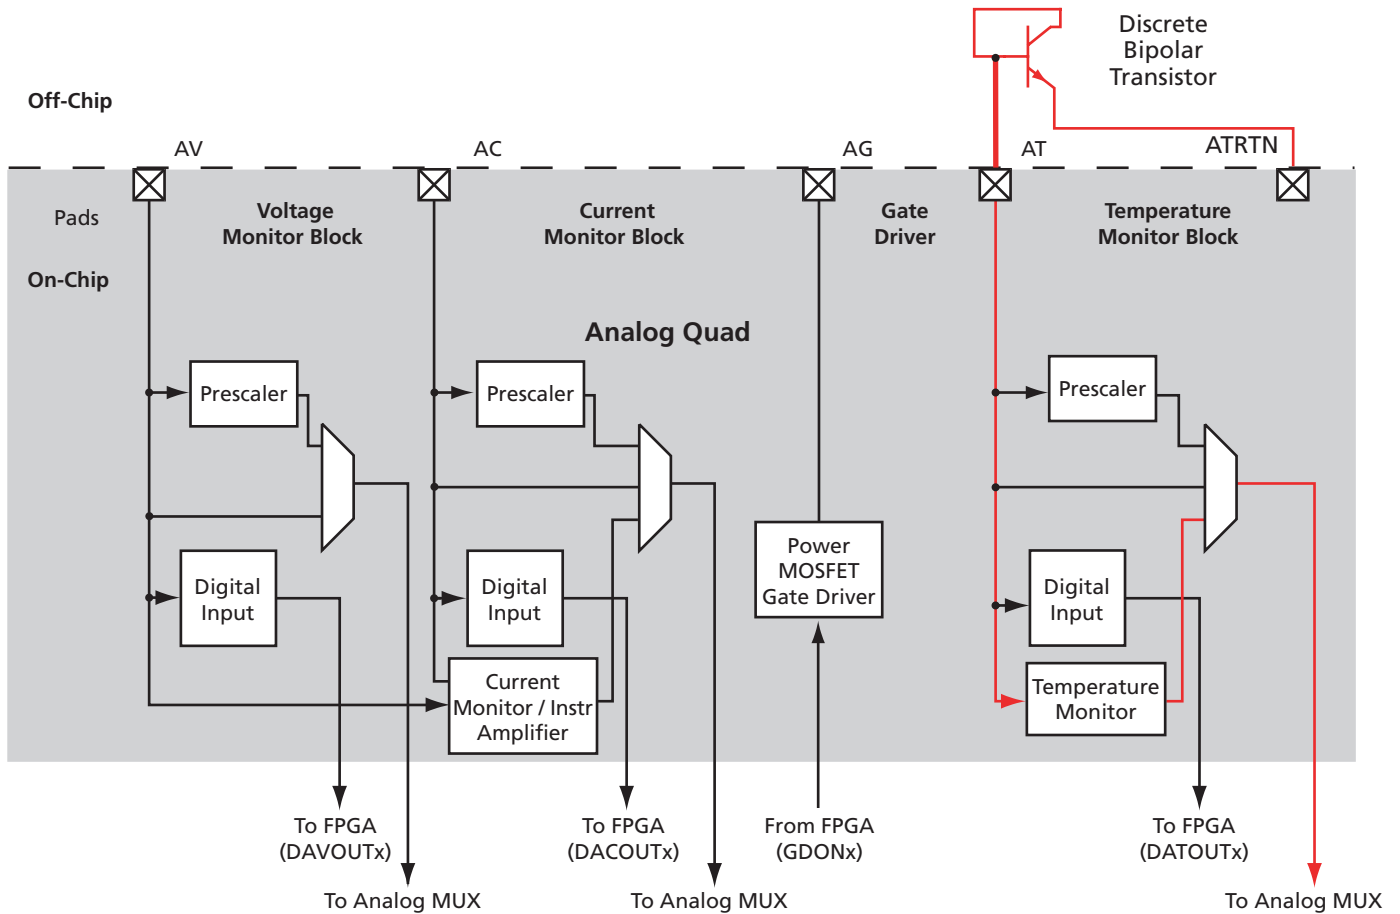

Figure 2-76 • Temperature Monitor Quad
The final pin in the Analog Quad is the Analog Temperature (AT) pin. The AT pin is used to implement an accurate temperature monitor in conjunction with an external diode-connected bipolar transistor (Figure 2-76). For improved temperature measurement accuracy, it is important to use the ATRTN pin for the return path of the current sourced by the AT pin. Each ATRTN pin is shared